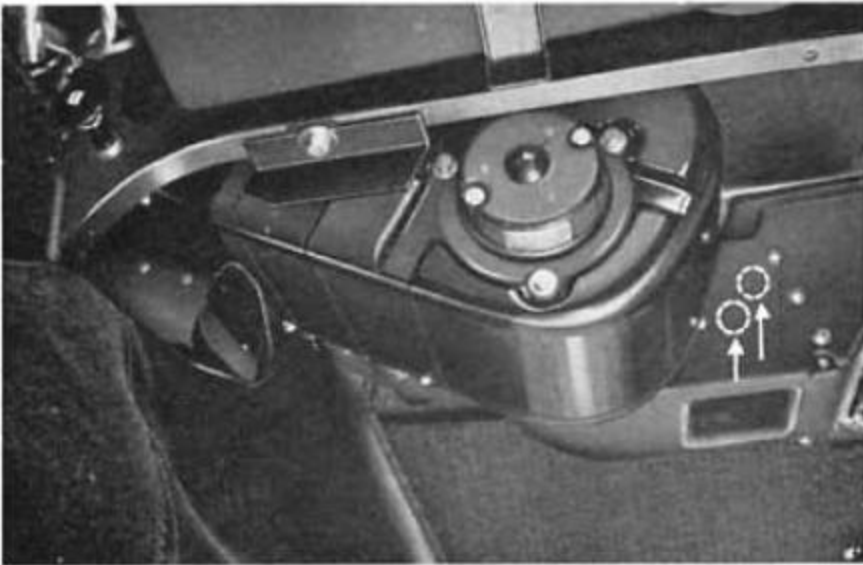

Fig. 17H-4.
3. Remove the heater hose from the heater unit. (Fig. 17H-6)